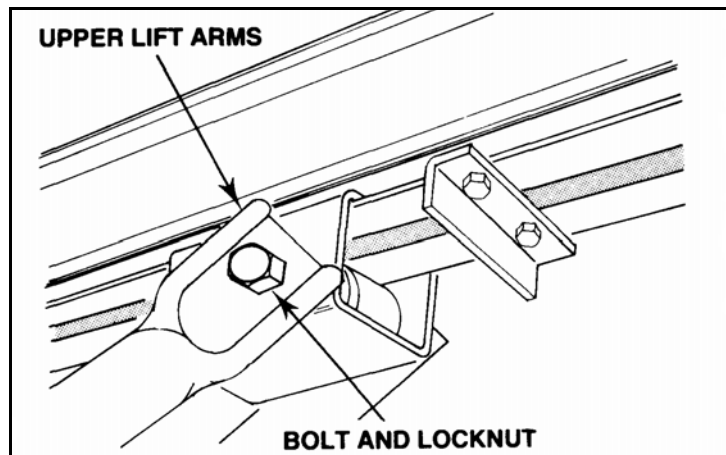

Figure 3.10
9. Attach upper lift arms to roller track shoe with one 5/8" x 6-1/2" bolt and locknut. **Do not overtighten.** Tighten snug only; this bolt acts as a pivot point (Figure 3.10).